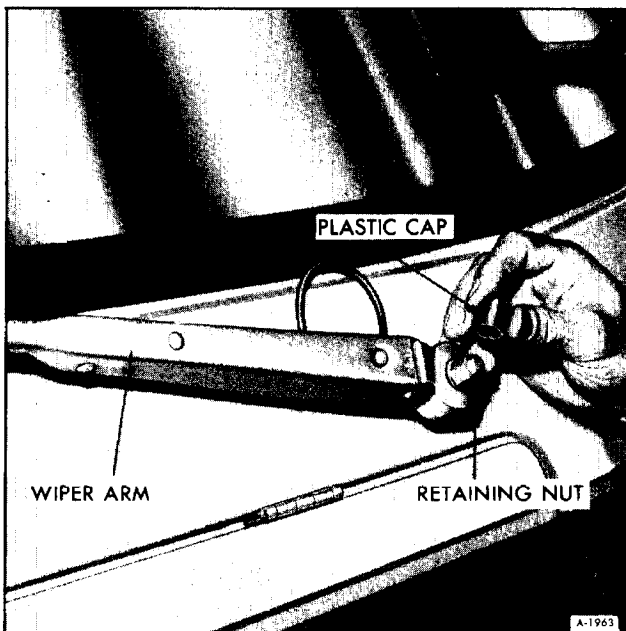

Figure 10-Wiper Arm Removal
1. Remove wiper arms from pivot shafts, by removing plastic caps from wiper arm retaining nuts. Remove retaining nuts. Remove wiper arms (See figure 10).
1. Disconnect hoses (2) at motor and tape end to prevent loss of fluid and entrance of dirt or water into system.
2. Loosen cable retaining screw at bottom of motor and remove pin from arm on motor assembly. See Figure 10.